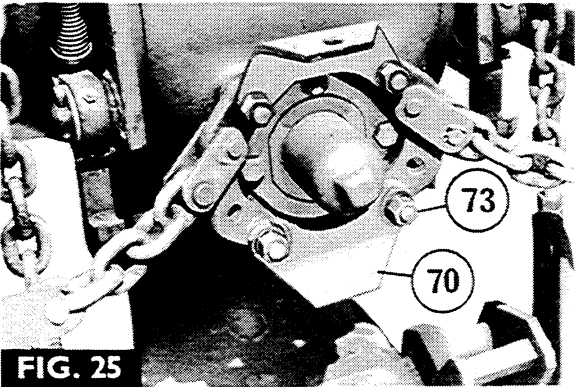

FIG. 25
29. Fig. 25. Remove the p.t.o. shield (if fitted) then remove the two nuts (73) spring washers and spacers securing the bottom of the check chain anchor bracket.
30. Fit the hook stop plate (70) and the nuts and spring washers, discarding the two spacers.